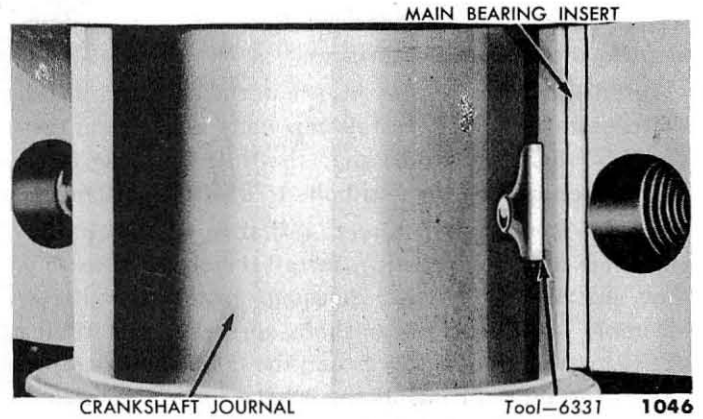

Fig. 46—Removing Main Bearing Insert
(1) REPLACEMENT WITHOUT REMOVING CRANKSHAFT. After the bearing cap has been removed, a special tool designed for removing the upper bearing insert may be inserted in the oil hole in the crankshaft. Figure 46 shows the tool in position ready to bear against the insert. When the crankshaft is rotated in the direction opposite to engine rotation the tool will force out the bearing insert. This tool should be used with caution to avoid damaging the bearing.